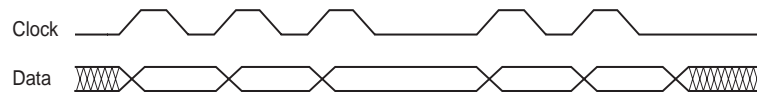

Figure 12-6 Input Mode with Clock Gating On
When clock gating is turned on (**clk_mode** is set to **gated** (1)), every negative clock edge is a bit strobe. When nothing is sent, the clock is held low. However, if clock gating is turned off (**clk_mode** is set to **normal** (0)), the clock will run continuously. Figure 12-6 below shows an example of the input mode with clock gating on: